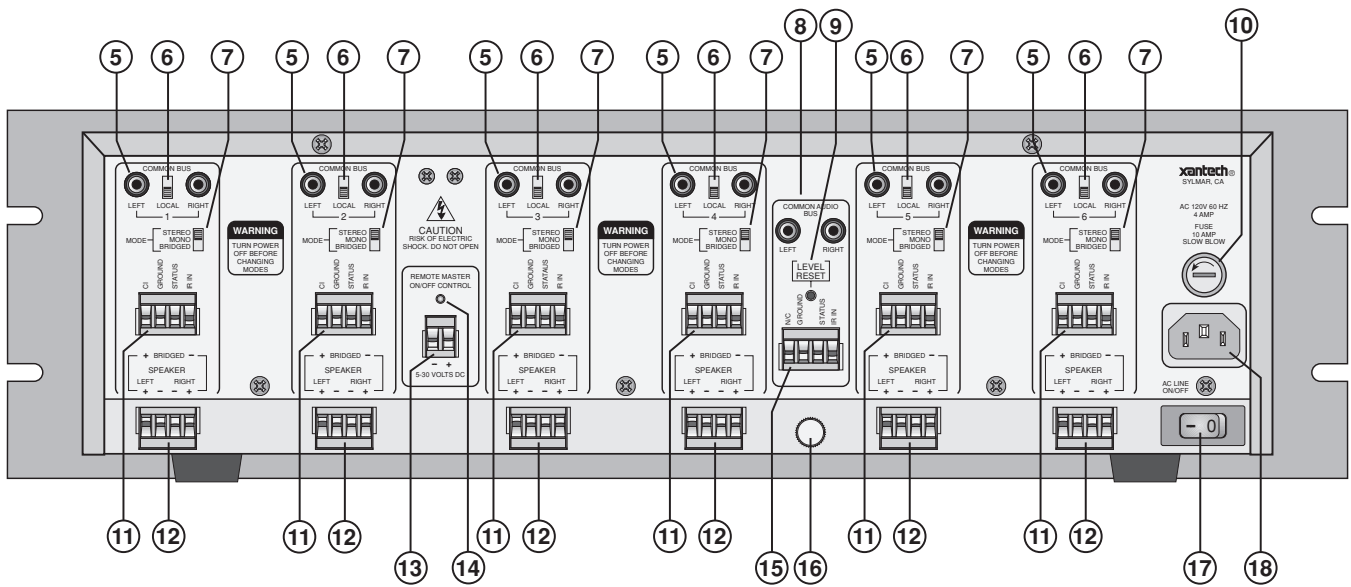

Fig. 3 PA1235 Rear Panel – Features and Functions
NOTE: This command is inhibited automatically when the CI terminal is driven high with an external control voltage. Refer also to items 9 and 11, **Fig. 3**.
It may be necessary to change the PA1235 amplifier pairs to different code groups if you wish to address each pair individually from the COMMON IR BUS (item #15, **Fig. 3**) or an external common IR bus network when using other Xantech PA1235's in large systems, to avoid mutual interaction.